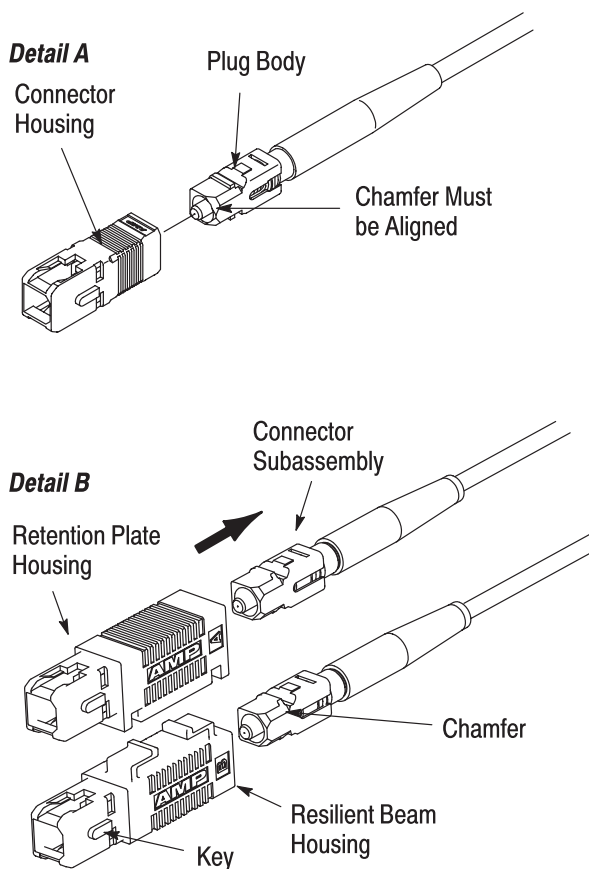

Figure 14
2. For SC-type connectors, slide the connector housing over the connector assembly until it clips into place. The chamfer must be aligned as shown in Figure 14, Detail A. For duplex SC-type connectors, identify the channel “A” connector.
3. Install the duplex housings accordingly. Be sure to orient the resilient beam and retention plate housings as shown in Figure 14, Detail B.